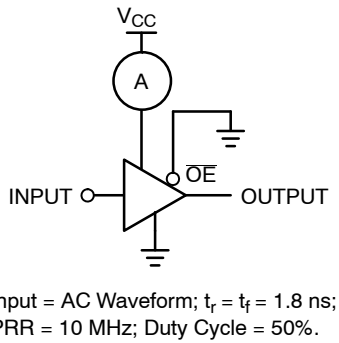

Figure 5. I_{CCD} Test Circuit
5. C_{PD} is defined as the value of the internal equivalent capacitance which is derived from dynamic operating current consumption (I_{CCD}) at no output loading and operating at 50% duty cycle. (see Figure 5) C_{PD} is related to I_{CCD} dynamic operating current by the expression: